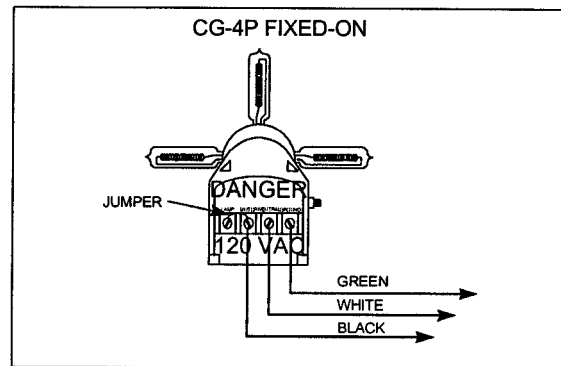

Figure 2-15
- k. Wiring shall be 12/3 SO cable through a watertight stuffing tube, or individually insulated wires installed in conduit (Liquid-Flex near lantern). Wires shall have insulated spring spade lugs and terminated at the "Black" (120VAC), "White" (Neutral) and "Green" (Ground) terminals of the CG-4P lampchanger, as shown in Figure 2-15 for fixed-on, 24 hours a day operation.